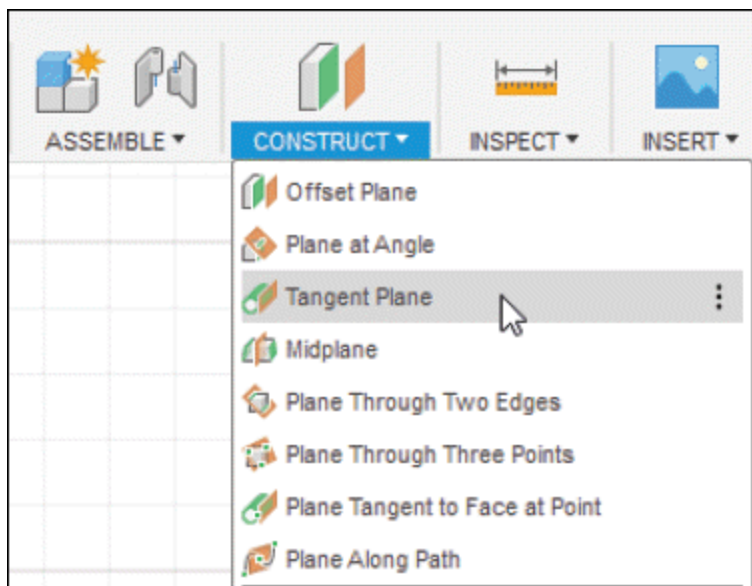
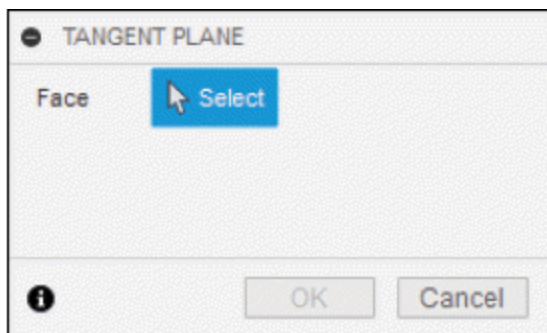

Figure-77. Tangent Plane tool
Figure-78. TANGENT PLANE dialog box
- Click on the **Tangent Plane** tool of **CONSTRUCT** drop-down from **Toolbar**; refer to Figure-77. The **TANGENT PLANE** dialog box will be displayed; refer to Figure-78.